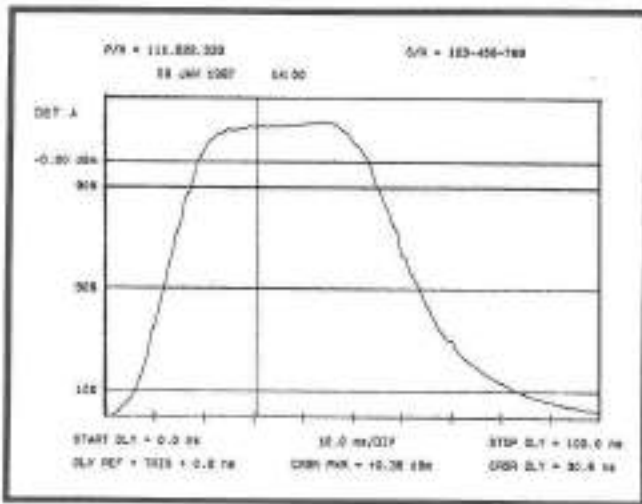

Figure 3-6. Example of Graph Mode Digital Plot
7. Enter the Graph or Marker Mode as desired. If the Marker Mode is used, marker pair delay difference timing will be plotted if activated on the LCD readout. See Figures 3-6 and 3-7 on the next page for examples of the types of plots available from the PPM.